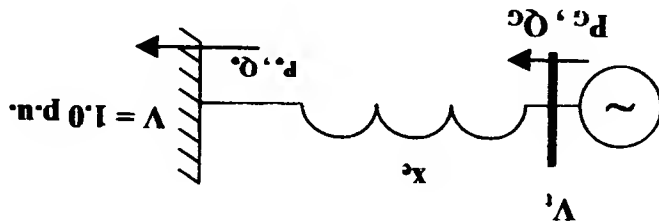

Fig. 2
5. A salient-pole synchronous generator is connected to an infinite bus through an external reactance $x_e = 0.2$ p.u. (Fig. 2). The synchronous reactances are $x_d = 1.4$ p.u. and $x_q = 0.8$ p.u. The generator is supplying the following active and reactive powers to the infinite bus system: $P_o = 0.9$ p.u., $Q_o = 0.3$ p.u. The infinite bus voltage is $V = 1$ p.u.